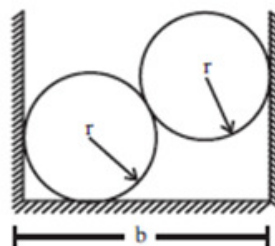

Figure 1
- b) Two smooth spheres each of weight  $W$  and each of radius ' $r$ ' are in equilibrium in a horizontal channel of width ' $b$ ' ( $b < 4r$ ) and vertical sides as shown in Figure 1. Find the three reactions from the sides of channel which are all smooth. Also find the force exerted by each sphere on the other. Center of the bottom sphere and lowest point of the upper sphere are in the same horizontal plane.